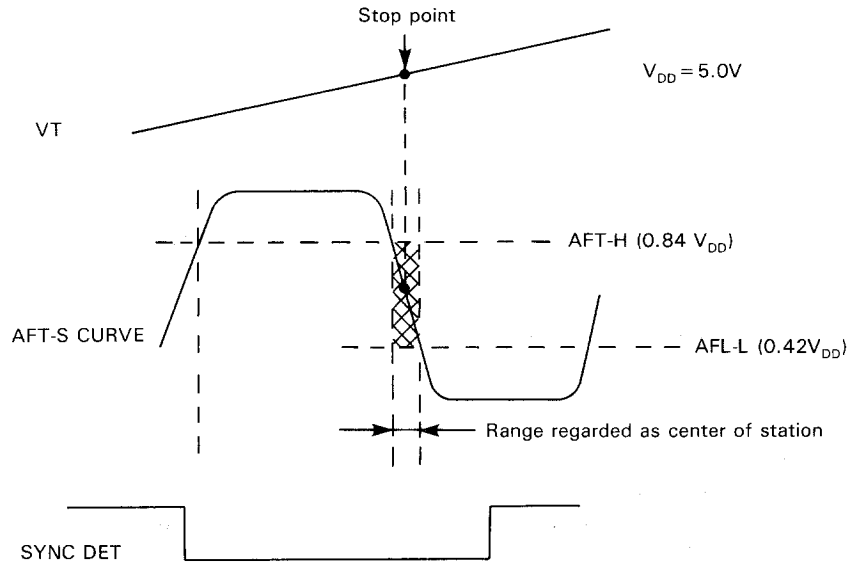

Figure 6-8. AFT-S curve at searching
Fig. 6-8 shows AFT curve and the timing of synchronizing identification signal at searching. AFT-S curve is fed into A/D input terminal pin ④⑦ of IC1401. Higher section than (AFT-H), lower section than (AFT-L) and middle section in between are detected, and the range regarded as the center of station is searched.
- ① VT (IC 1401 pin ③⑩) voltage is raised at fast speed until it is detected that synchronizing detecting = "L" (IC1404 pin ⑩ SYNC DET) and AFT-S curve level (IC1401 pin ④⑦) is higher than AFT-H (0.84 Vdd).
- ② VT is raised at slow speed until it is detected that AFT-S curve level (IC 1401 pin ④⑦) is lower than AFT-L.
- ③ With VT being lowered by minimal step, AFT-S curve level is detected becoming higher than AFT-L. VT data at this time is "A".
- ④ With VT being lowered by minimal step, AFT-S curve level is detected becoming higher than AFT-L. VT data at this time is "B".